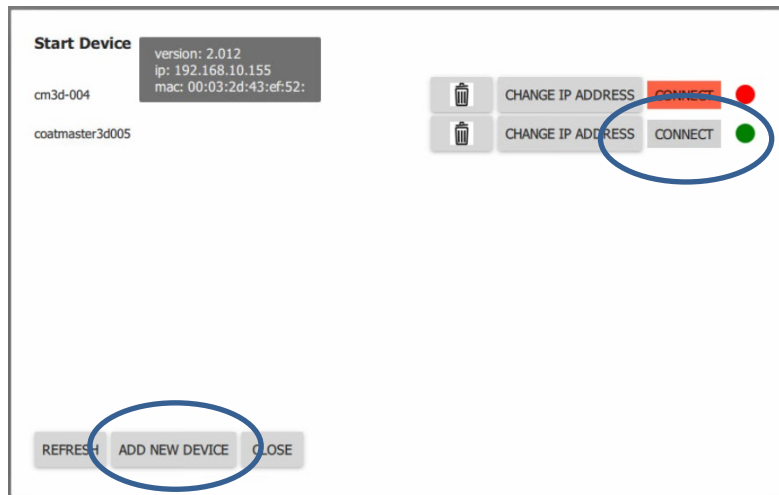

Figure 7. Connecting the cm3d and the client SW
5. On the main window of the GUI. Select *File* and then *Device* (see Figure 7).